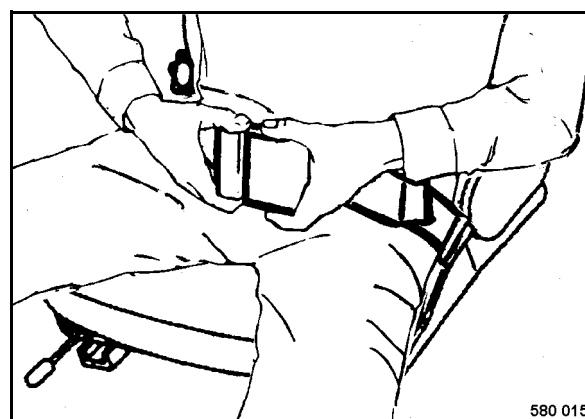

Fig. 36
- Fasten your seat belt (Fig. 36).